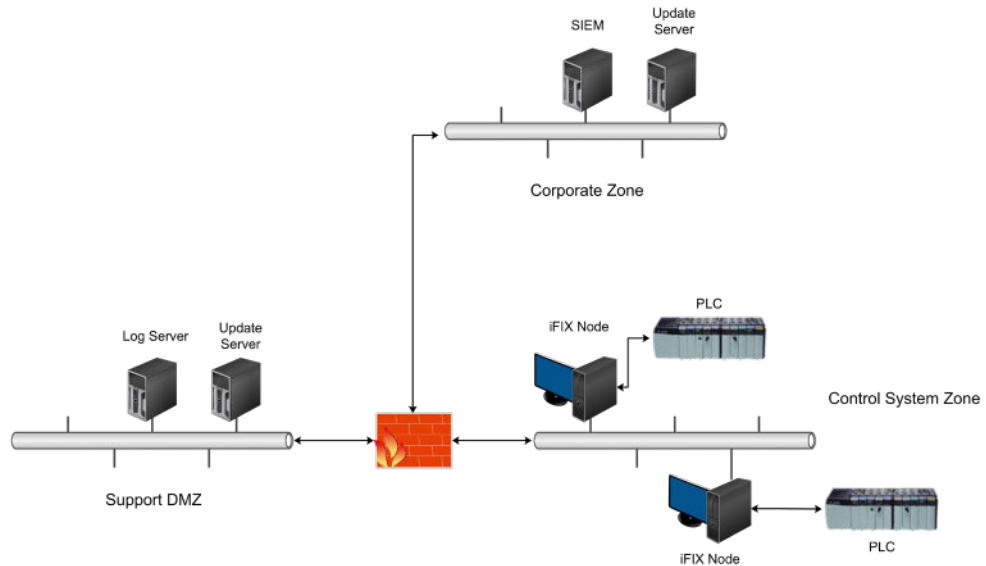
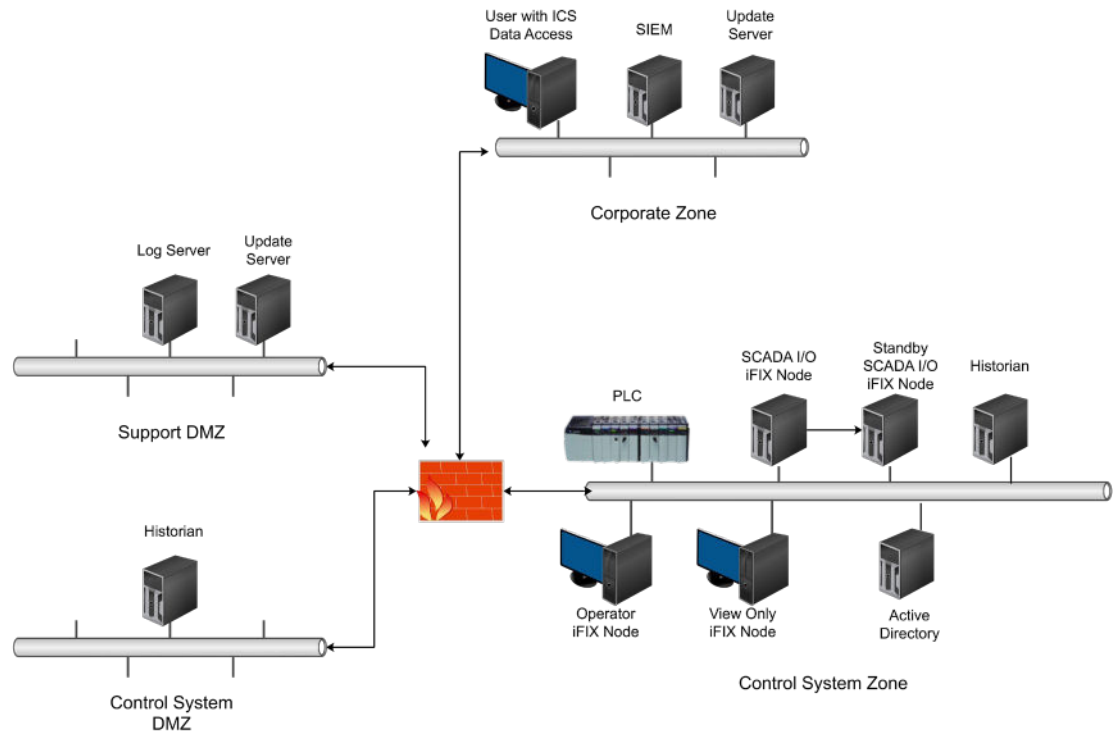

Figure 2 Distributed Process Control with a Support DMZ
Figure 3 Centralized Process Control and the Addition of a Control System DMZ
A good security practice is to limit the conduits, or communication, between security zones. These conduits should be governed by a least privilege or whitelist approach where only required and approved communication is allowed through the conduit. The more trusted zone should originate communication to lower trust zone wherever possible. For example, a process in the Control System Zone can pull patch and anti-virus updates from the Support DMZ, as shown in Figure 2.
- Initiate the TCP communication from the more trusted zone. In other words, the computer in the more trusted zone pulls the updates from the less trusted zone. In Figure 2, the Update Server in the Support DMZ initiates a TCP session with a computer in the Corporate Zone to pull updates. Similarly, the iFIX nodes in the Control System Zone initiate TCP sessions with the Update Server in the Support DMZ to retrieve the updates.
Figure 2 shows a Log Server with the role to receive log files from the Control System Zone and forward them to the Corporate Zone. These log files could be syslog files from switches, routers, firewalls or servers, alerts from anti-virus or intrusion detection systems (IDS), alerts from PLCs, sensors, and anything else that can send a message in the network.
Figure 3 shows the addition of a Control System DMZ to the Figure 2 architecture. Many organizations combine the Control System DMZ and Support DMZ into a single DMZ but by separating them, you can gain these security advantages: